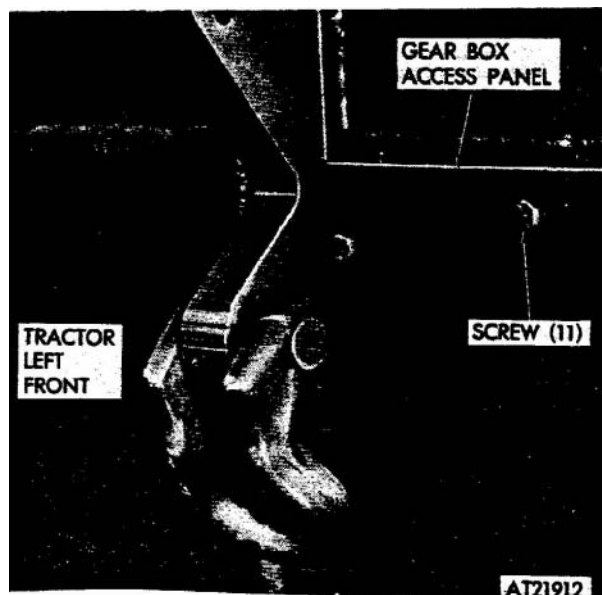

Figure 2-259. Tractor steering gear box access panel.
(1) Align front wheels in a straight ahead position. With steering wheel centered, chalk a line across steering wheel hub and steering column.
(2) Remove access panel by removing screws securing steering access panel (fig 2-259).